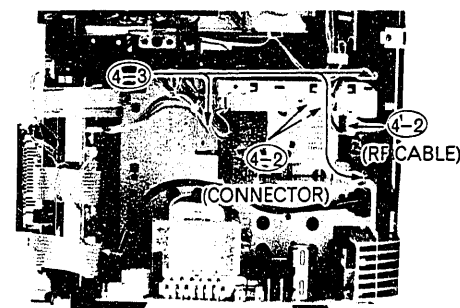

Fig. 14 Tuner/IF P.C. Board.
4. Tuner/IF P.C. Board (Fig. 14)